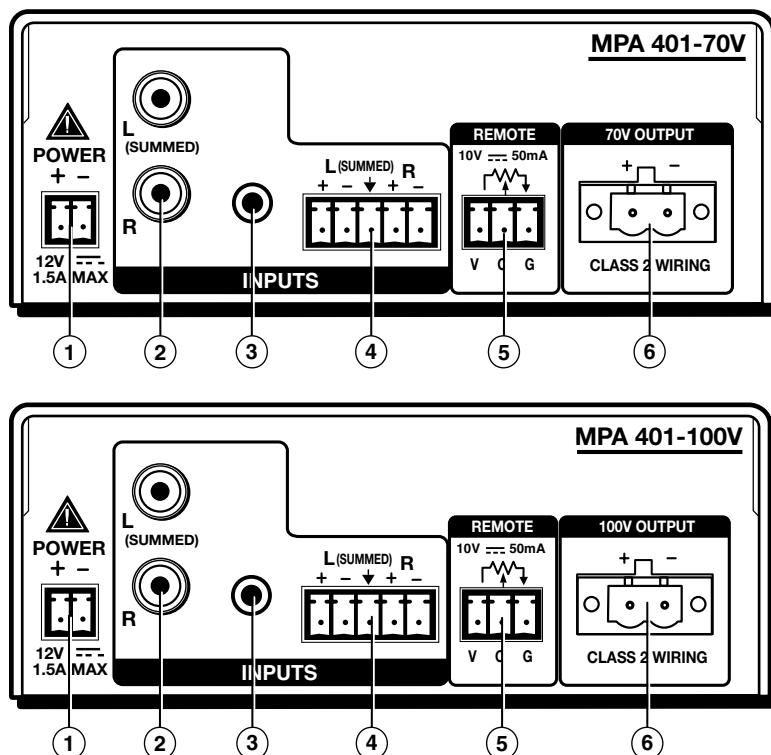

Figure 2. MPA 401-70V and MPA 401-100V Rear Panel Features
- ⑥ **Speaker receptacle (see figure 2)** — Connect the speakers to the speaker receptacle using the 2-pole, 5 mm screw-lock captive screw connector (MPA 401-100V shown at right).